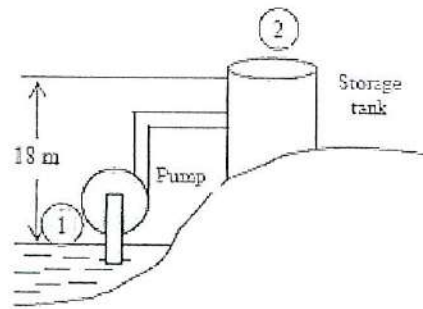

Figure 6 / Rajah 6
- a) In climates with low night – time temperatures, an energy – efficient way of cooling a house is to install a fan in the ceiling that draws air from the interior of the house and discharges it to a ventilated attic space. As shown in **figure 6** consider a house is to be exchanged once every 20 minutes. Determine the required flow rate of the fan and the average discharge speed of air if the fan diameter is 0.5 m.
- b) Based on **figure 6** water is pumped from a lake to a storage tank 18 m above at a rate of 70 L/s while consuming 20.4 kW of electric power. Disregarding any frictional losses in the pipes and any changes in kinetic energy. Determine the overall efficiency of the pump – motor unit and the pressure difference between the inlet and the exit of the pump.